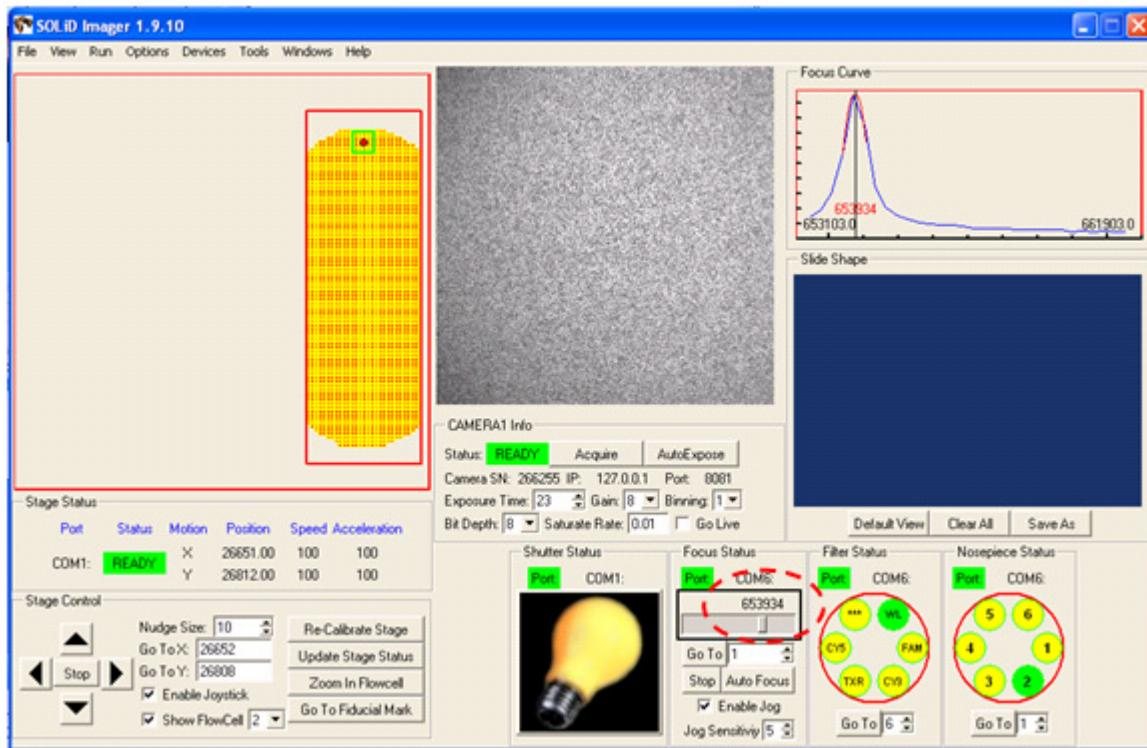

Figure 84 Record the nominal Z distance.
- When the image is in focus, record the value of the Z distance in the Focus Status pane. This is the *nominal Z distance* for this flowcell. Be sure to record the correct Z distance value, not the value in the GoTo window (see Figure 84).